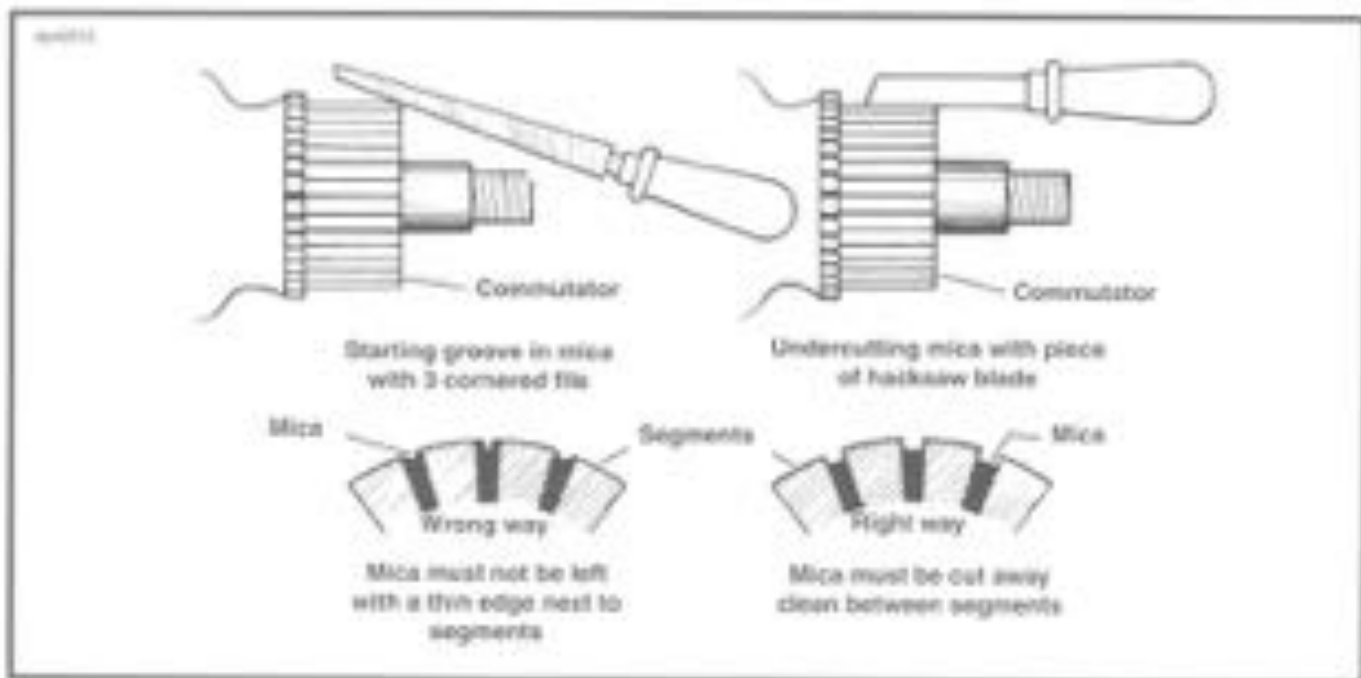

Figure 5-13. Undercutting Mica Separators
8. Check depth of mica on commutator. If undercut is less than 0.008 in. (0.20 mm), use an undercutting machine to undercut the mica to 1/32 in. (0.79 mm) deep. The slots should then be cleaned to remove any dirt or copper dust. See Figure 5-13. If an undercutting machine is not available, undercutting can be done satisfactorily using a thin hacksaw blade. After undercutting, lightly card the commutator with crocus cloth to remove any burrs.